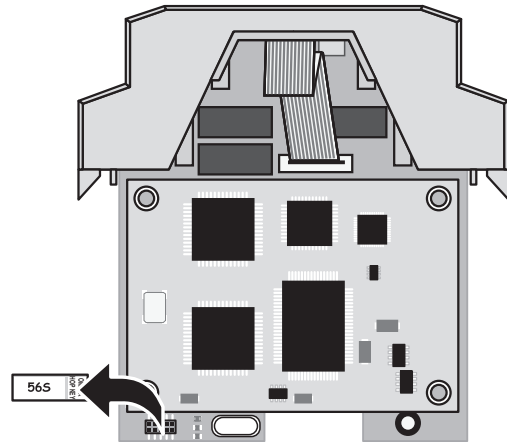

Figure 31 Inserting the HOPKEY
5. At the bottom right on the PCB is a small PCB in a 10-pos. base – this is the HOPKEY. Remove the HOPKEY and insert it in the same position in the new transceiver that you wish to install (see Figure 31).